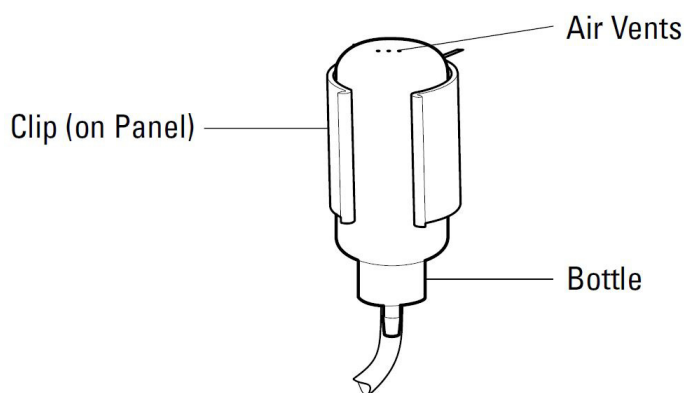

Figure 13: Reference Mounting Clip
8. Invert the electrolyte bottle and snap it into the clip. Refer to Figure 13. Mark and date the level of filling solution in the reservoir. The electrolyte solution will begin to flow into the reference electrode.